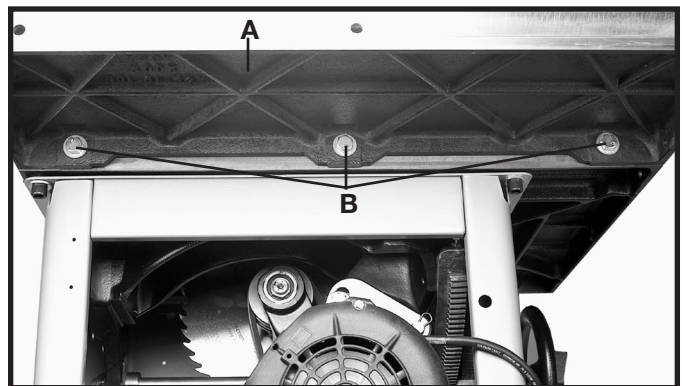
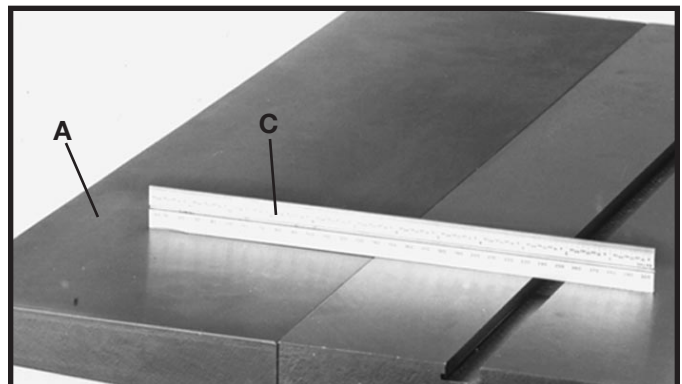

Fig. 5
Fig. 6
Assemble the extension wing (A) Fig. 5, to the left side of the saw table using the three 7/16"-20x1¼" hex head screws (B) and 7/16" flat washers supplied. **NOTE: MAKE SURE FRONT EDGE OF WING IS FLUSH TO OR SLIGHTLY BEHIND THE FRONT EDGE OF THE TABLE.** Use a straight edge (C) Fig. 6, to make sure the extension wing (A) is level with the saw table before tightening the screws (B) Fig. 5.